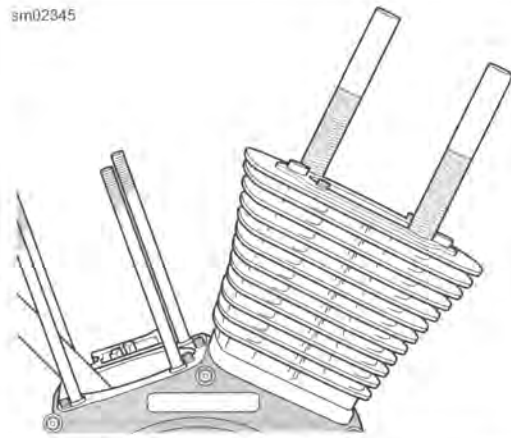

Figure 3-73. Install Threaded Cylinders to Studs
- Fit tabs on pliers (1) into slots of ring compressor band (2). The arrow stamped on the band indicates the side that faces up. The word "bottom" refers to the piston bottom.
- See Figure 3-73. Install THREADED CYLINDERS (Part No. HD-95952-1) from CONNECTING ROD CLAMPING TOOL (Part No. HD-95952-33C) onto cylinder studs with the knurled side down.